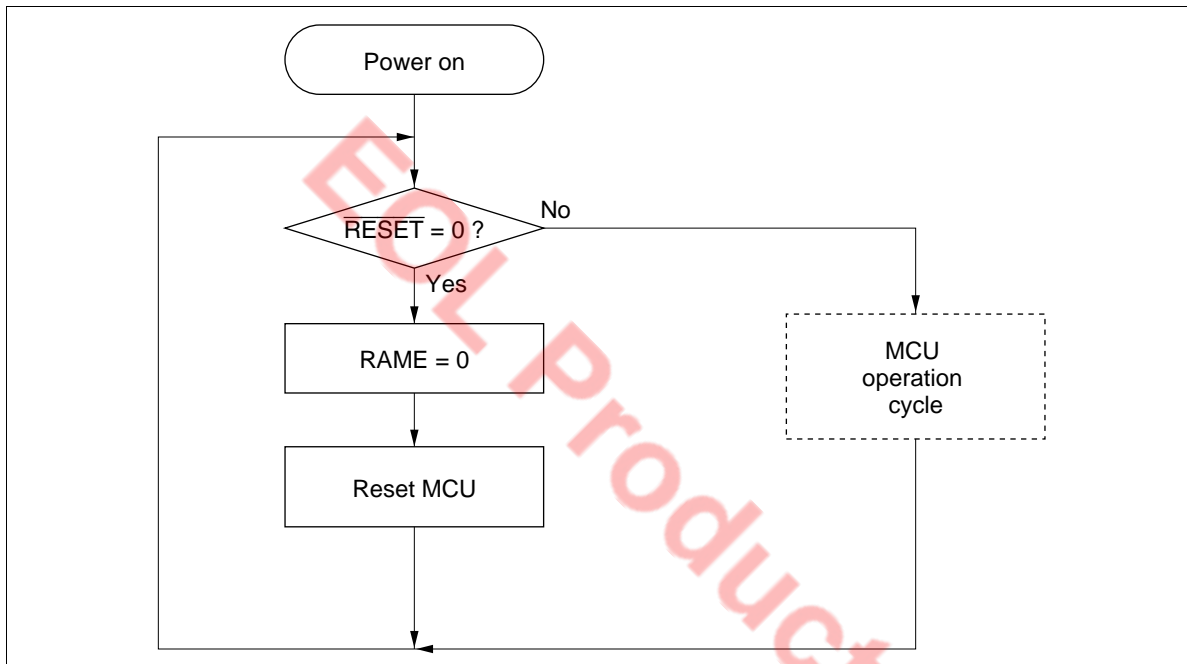

Figure 17 MCU Operating Sequence (Power On)
**MCU Operation Sequence:** The MCU operates in the sequence shown in figures 17 to 19. It is reset by an asynchronous RESET input, regardless of its status.